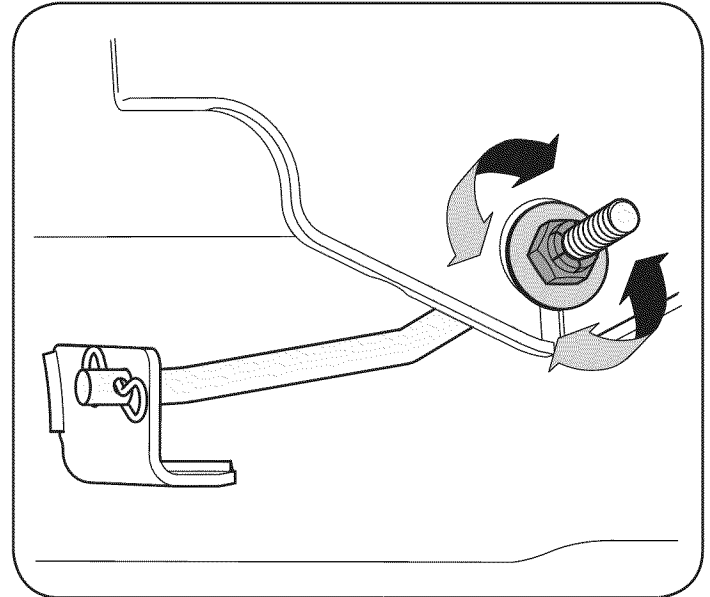

Figure 15
3. Locate the flange lock nut on the front side of the stabilizer bracket. See Fig. 15.